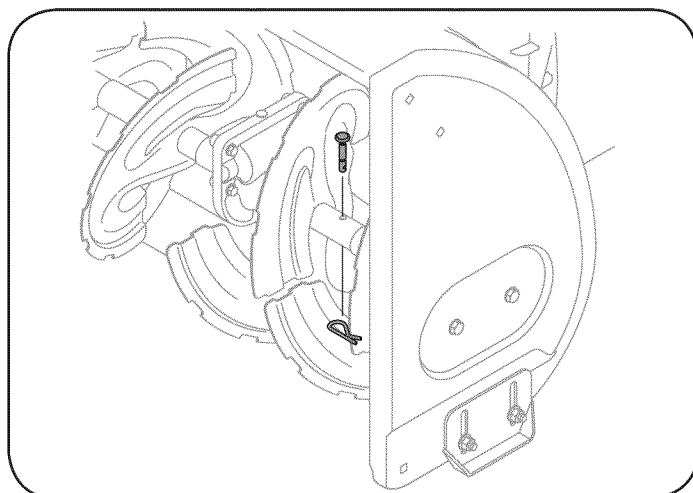

Figure 10
2. A fuel level indicator is located in the fuel tank. Fill tank until fuel reaches the fuel level indicator. See Figure 10 inset. Be careful not to overfill.
The auger is secured to the spiral shaft with two shear pins and bow-tie clips. If the auger should strike a foreign object or ice jam, the snow thrower is designed so that the shear pins may shear. If auger will not turn, check to see if the pins have sheared. See Figure 10.